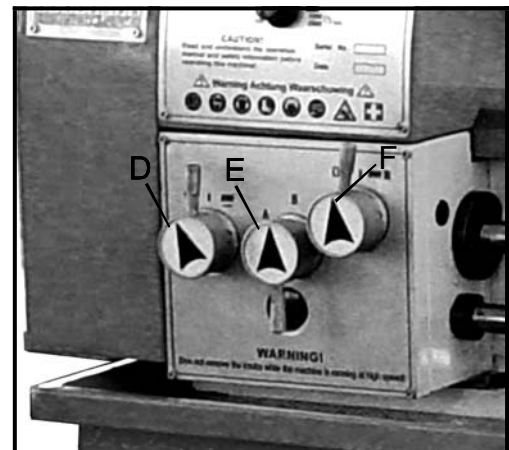

Fig. 12
4. Feed Direction Selector (D, Fig. 12)
5. Feed Rate Selector (E, Fig. 12)
6. Feed/Thread Selector (F, Fig. 12)